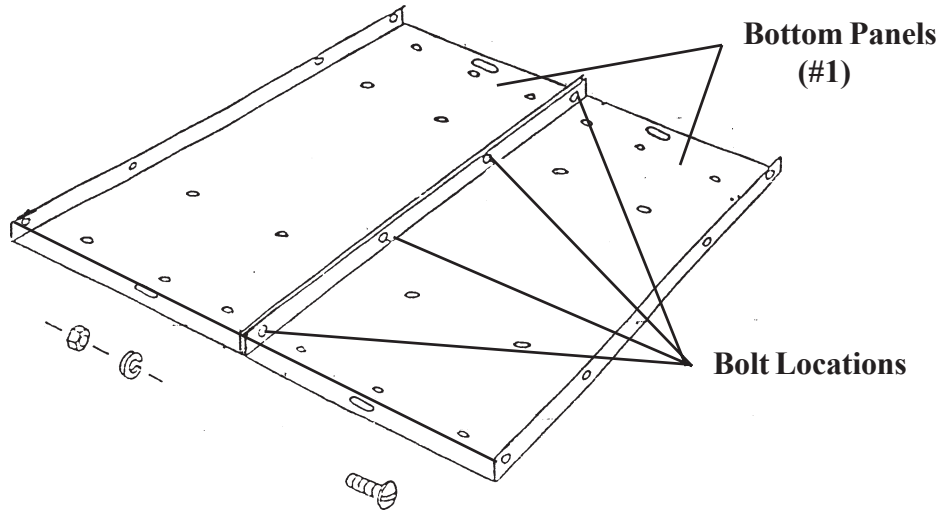

Figure 2
Step 2: Connect the two Bottom Panels shown in Figure 2 using 4 Bolts (#21), 4 Washers (#23) and 4 Nuts (#24).